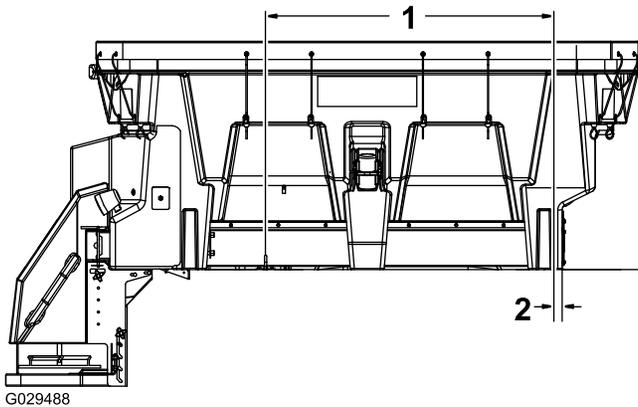

Figure 7
1. Using a 7/16-inch drill bit, mark and drill the holes for the D-rings as shown in Figure 7.